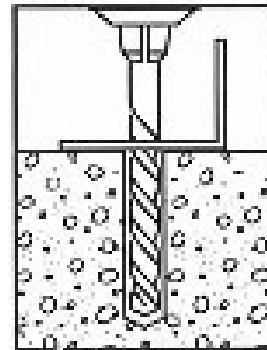

Figure 30
4. Keep drill perpendicular to the floor while drilling. Let drill do the work. Drill the hole completely through the slab. Clean dust from hole using a vacuum. (See Figure 30)